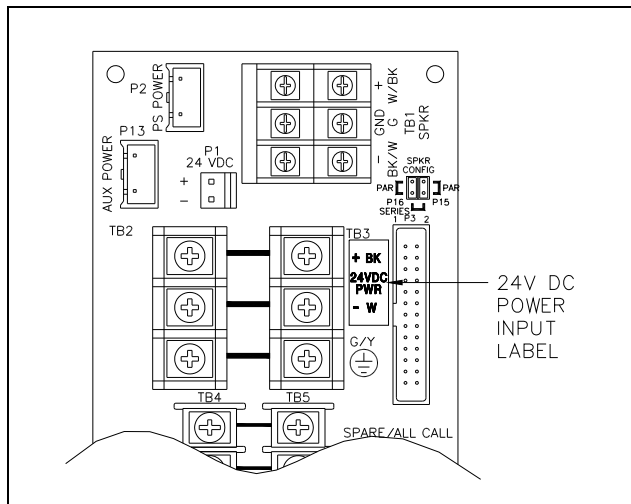

Figure 3. Location for placement of 24 V dc power input label on the Termination PCBA
11. For dc kits, attach the 24 V dc power input label to the Termination PCBA at the location shown in Figure 3.